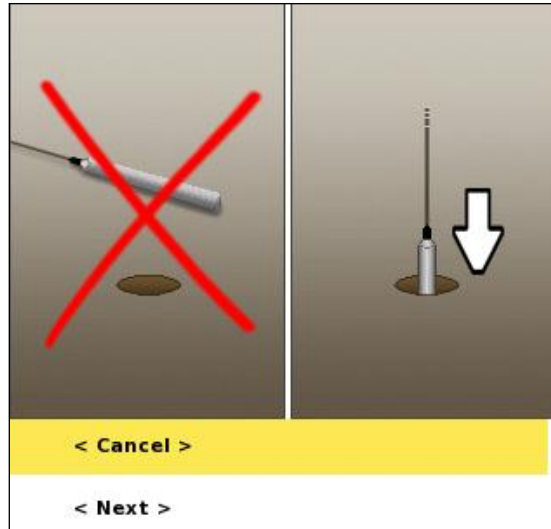

Figure 89 First Check level dialog
- The first dialog (Figure 89) instructs the user to lower the probe into the well